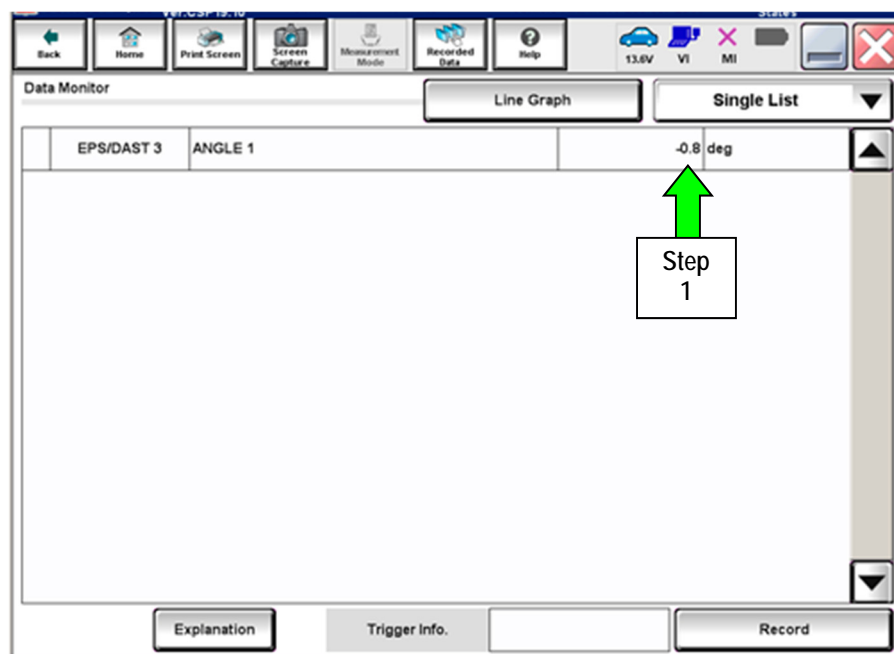

Figure 5
1. With C-III plus in **Diagnosis (All Systems)**, select **EPS/DAST 3 >> DATA MONITOR >> ANGLE 1**, and then check the value of **ANGLE 1** (see Figure 5).